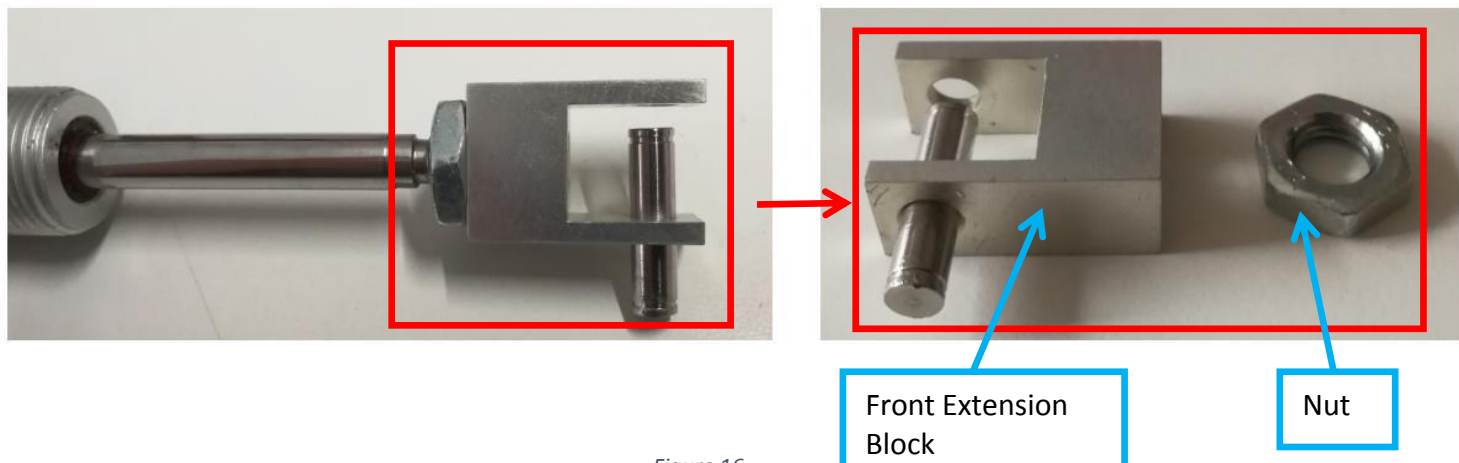

Figure 16
20. Assemble Nut & Front Extension Block (With Dowel Pin) at Outer Barrier Cylinder as Figure 16